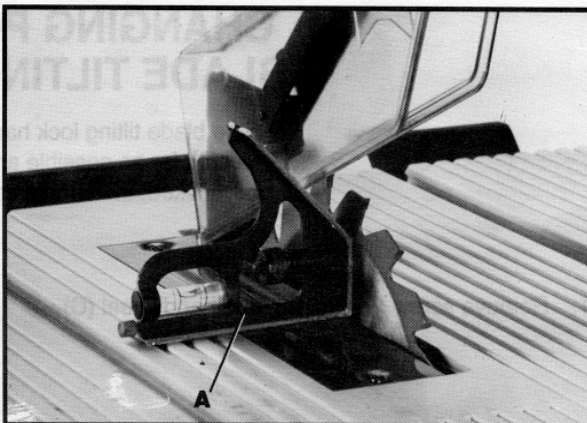

Fig. 31
2. Loosen the blade tilting lock handle and move the blade tilting mechanism until the blade is at 90 degrees to the table. Place a square (A) Fig. 31, on the table with one end of the square against the blade, as shown, and check to see if the blade is at 90 degrees to the table. Move the blade tilting mechanism further if necessary until the blade is at 90 degrees to the table and tighten the blade tilting lock handle.